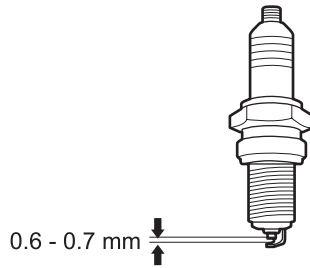

Fig. 28b
7. Check the spark plug gap; it should be 0.6 - 0.7 mm. (See Fig. 28b)